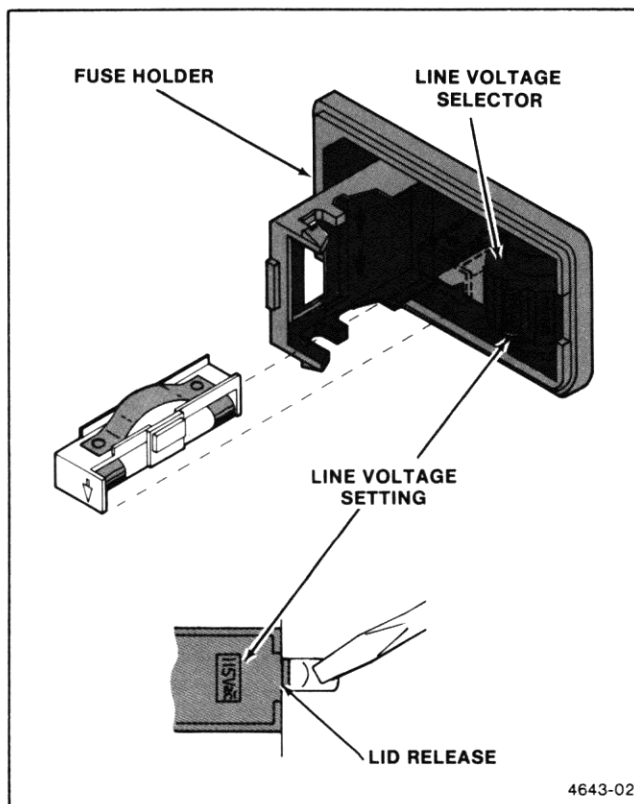

Figure 2-2. Fuse holder/line voltage selector.
The power-input module located on the rear panel of the instrument houses a Line Voltage Selector, a line-fuse and a power cord connector. The present line voltage setting is indicated on the selector. If it is necessary to convert the instrument for operation with a different line voltage range, perform the following procedure (refer to Figure 2-2).
2. Using a flat-bladed screwdriver, unsnap and open the cover on the fuse holder/voltage selector (refer to Figure 2-2).